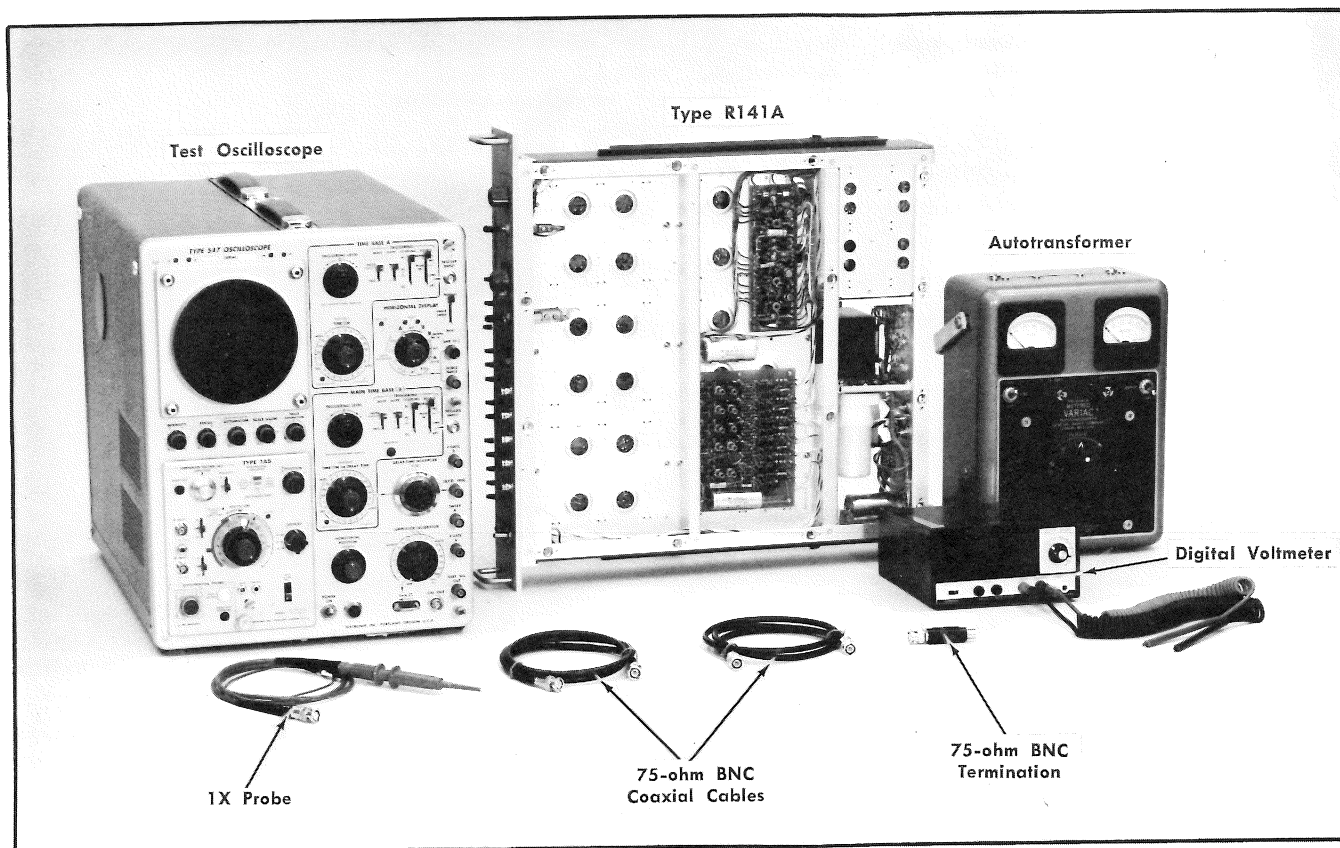

Fig. 5-1. Equipment required for steps 1 and 2.
6. Set the Type R141A and Test Equipment controls as described following Fig. 5-1.
- a. Test equipment is shown in Fig. 5-1.